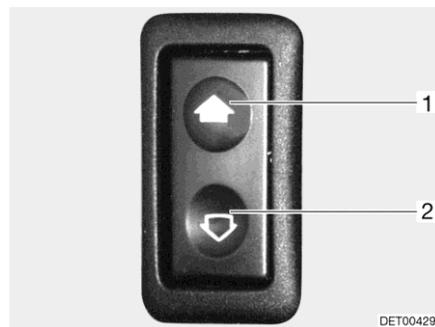

Fig. 40 Switch for electrical window winders
- Press lower part of the switch (Fig. 40,2).
- Press upper part of the switch (Fig. 40,1).